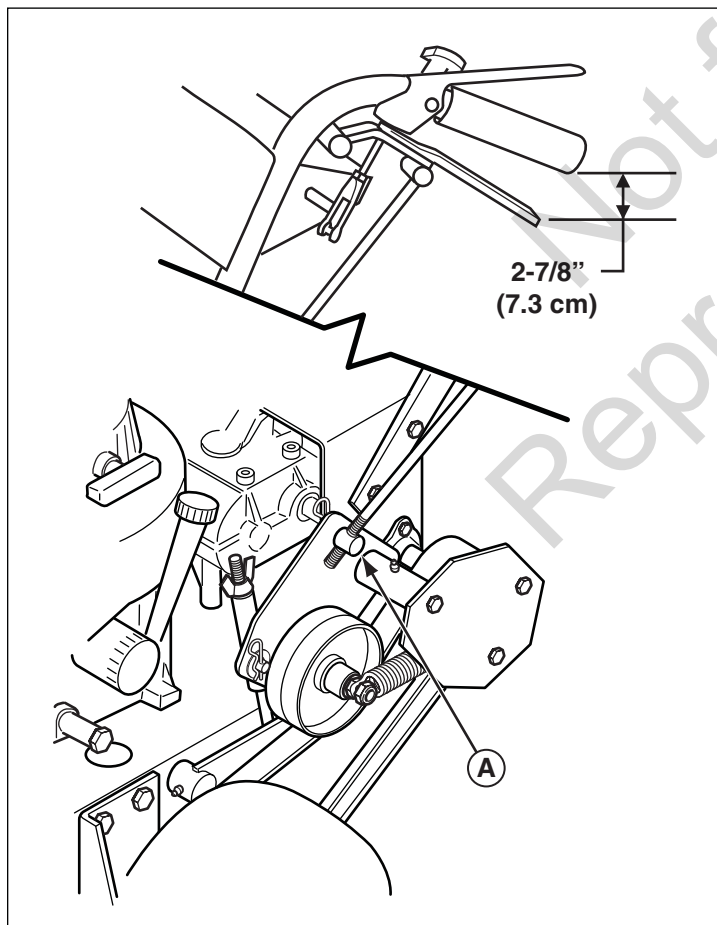

Figure 18. Steering Lever Adjustment
There should be approximately 2-7/8" (7,3 cm) of clearance in between the handle bars and the steering levers when the lock plates are in the drive position. (see Figure 18).
4. Remove the hair pin that retains the barrel nut (A, Figure 18) in the pivot plate.